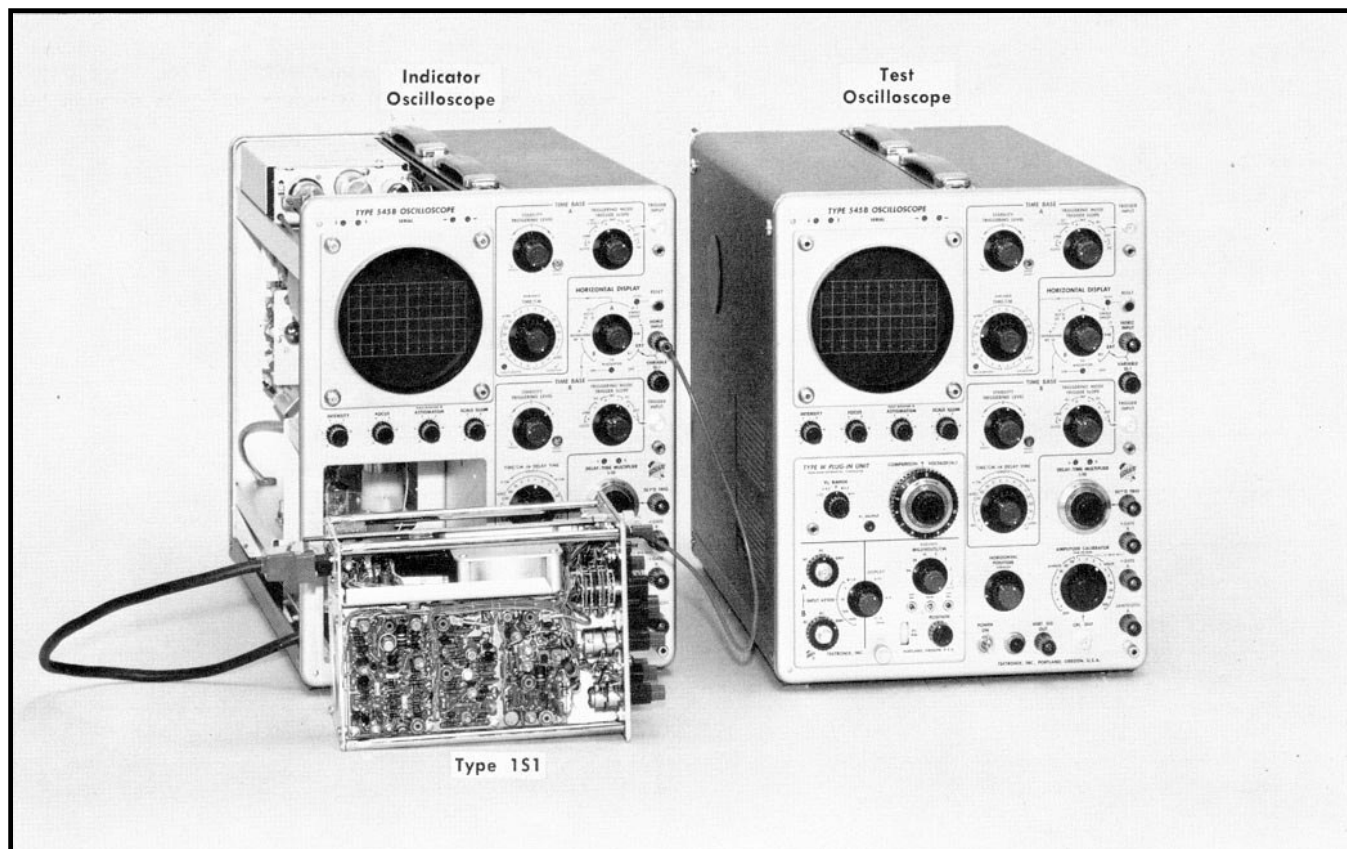

Fig. 5-7. Initial test setup for steps 4 through 7.
- Test equipment setup is shown in Fig. 5-7.